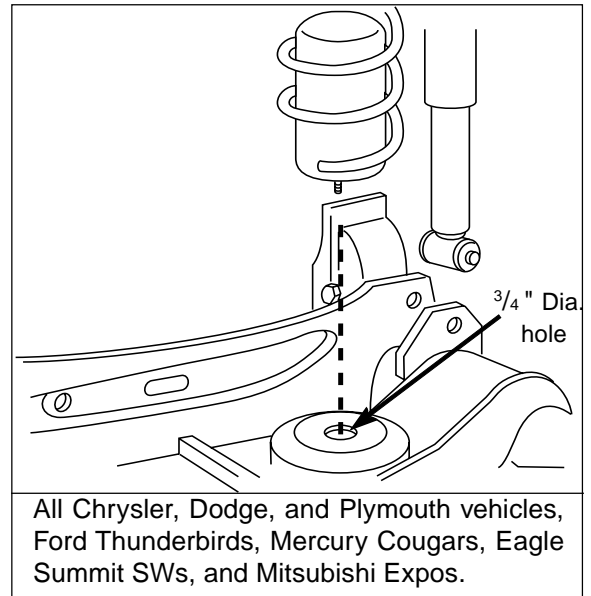

Figure 1
Multiple Applications – See special notes and Figures 1, 2 and 3 for your particular vehicle.
- (3) Stick the template on the underside of the lower spring seat with a dab of grease.
- (4) Centerpunch and drill $\frac{3}{4}$ " diameter hole. Remove all burrs and sharp edges (Figure 1).
- (6) Insert air cylinder into coil spring with stem at bottom. Push the cylinder up within the coil by hand or with a blunt instrument such as a spoon-type tire iron.
- (7) When the cylinder is completely within the coil, remove the cap and allow the cylinder to assume its "as molded" shape. For Thunderbirds or Cougars skip to step (9), otherwise continue on to step (8)
- (8) For Chrysler, Dodge, or Plymouth: With the air cylinder stem down (Figure 1) install coil springs into spring seats and rotate to proper location. Attach lower shock absorber attaching bolts. Torque to 25 ft-lbs.
- (9) Continue with air line installation on pages 2-4.
- (1) Increase the diameter of the hole in the lower spring seat to $\frac{3}{4}$ " diameter. Remove all burrs and sharp edges.
- (2) Insert air cylinder into coil spring with barbed stem towards the bottom. Push the cylinder up within the coil by hand or with a blunt instrument such as a spoon-type tire iron (Figure 1).
- (3) When the cylinder is completely within the coil, remove the cap and allow the cylinder to assume its "as molded" shape.
- (4) Continue with air line installation on pages 2-4.